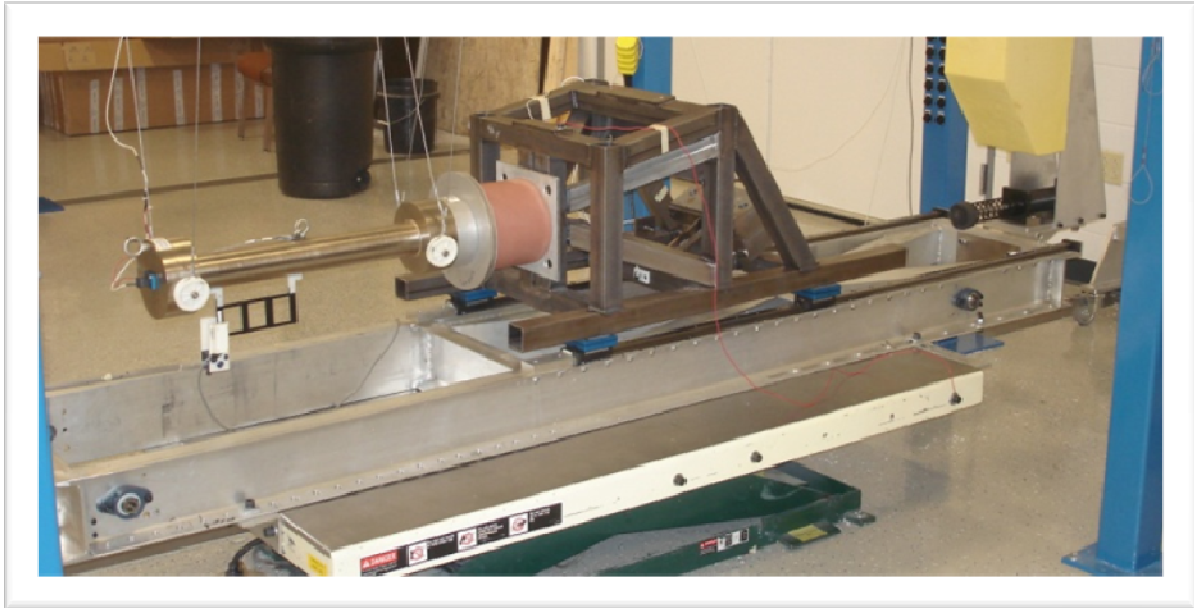

Figure 5 - BioRID Sled and Track Certification
- Figure 5 illustrates the typical Sled and Track Certification Setup.